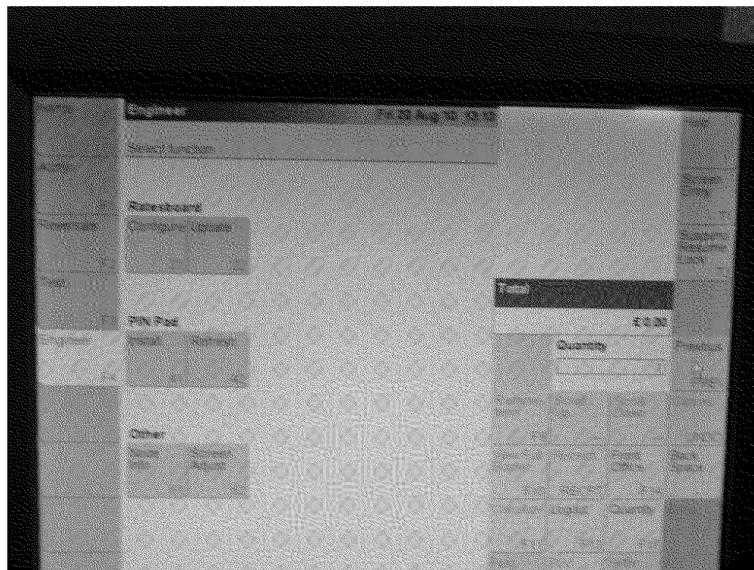

Figure 20
Upon entering the final Currency Code and selecting the tick icon (or pressing the ‘Enter’ key), Horizon will navigate back to the engineer screen (Figure 20 below)
- 11) The Branch Manager should touch the 'Update' icon (22). After a few seconds, you will be navigated back to the engineer screen (Figure 20 above)